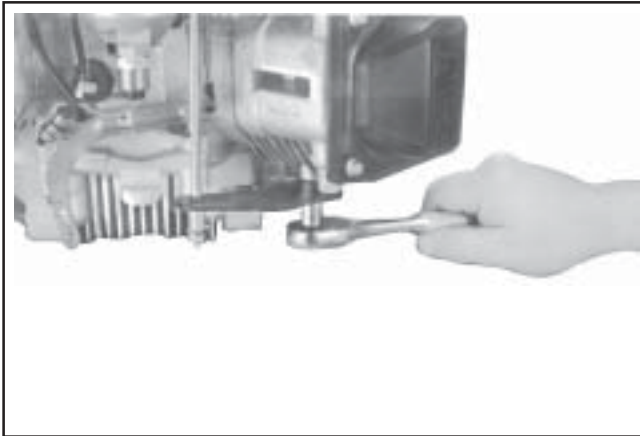

Figure 9-14. Removing Throttle Control Bracket.
3. Disconnect the throttle control bracket from the cylinder head. See Figure 9-14.